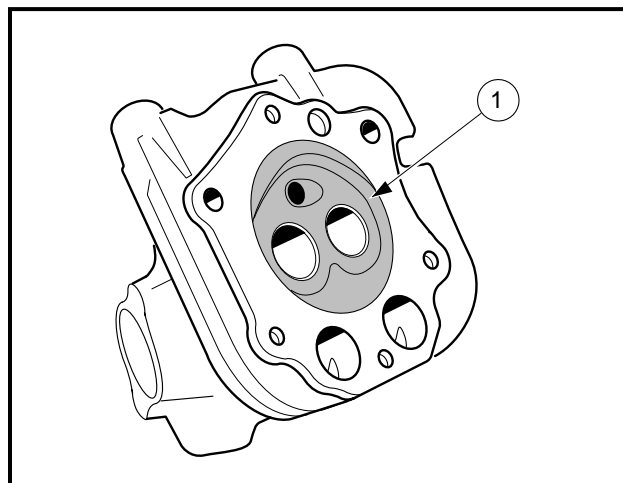

Figure 13-16 Combustion Chamber
- SMOOTH OUT ANY DAMAGED SPOTS IN THE COMBUSTION CHAMBER (1) USING A SMALL GRINDER. SHARP EDGES IN THE COMBUSTION CHAMBER MAY CAUSE PRE-IGNITION. DO NOT REMOVE ANY MORE MATERIAL THAN IS NECESSARY OR CHANGE THE SHAPE OF THE COMBUSTION CHAMBER (**FIGURE 13-16, PAGE 13-12**).